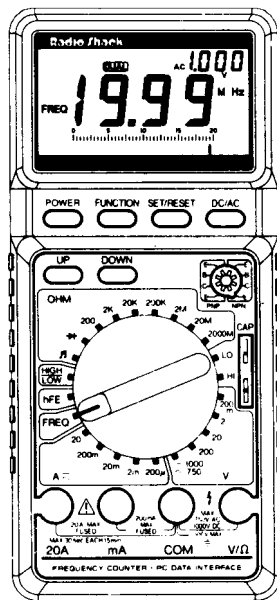

Figure AA-3. The RS multimeter (Cat. No. 22-168A)
The Radio Shack (RS) Manual/Auto Range DMM (Figure AA-3) is one of the least expensive DMMs on the market that has reasonable accuracy (1-2%) and a serial port.